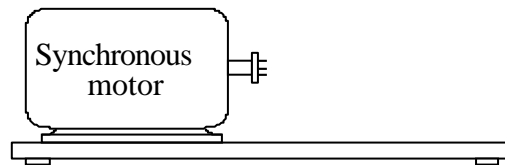

Figure 1
1. Mount the synchronous motor on the double machine bed as shown in figure 1.